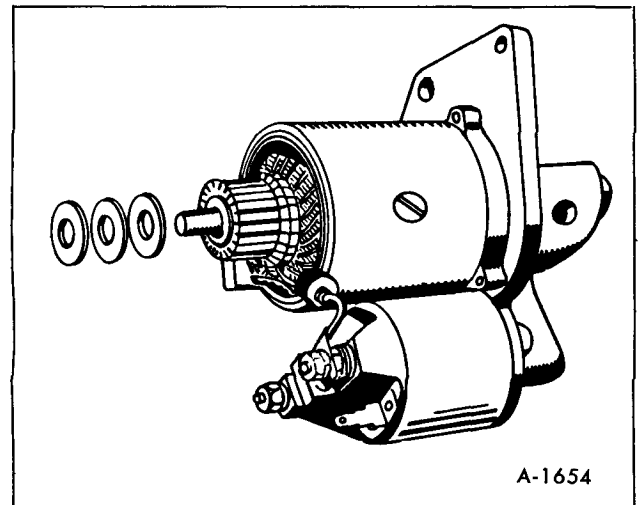

Figure 66—Installing Thrust Washers
7. Place the thrust washer (steel) and washer (fiber) on the commutator end of shaft, and apply a small amount of lubriplate on the shaft (figure 66).